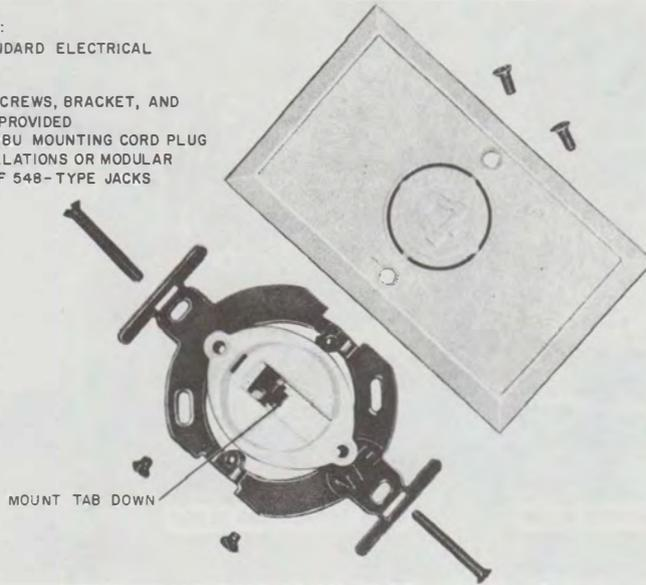

Fig. 2—625B Connecting Block (With Mounting Hardware)◆
- Provide top/bottom orientation to modular connectors (Fig. 2, 3, and paragraph 3.11) and Warning to paragraph 3.01
- Block, Connecting, 625B (Fig. 2)
**2.03** The **625B** connecting block (Fig. 2) includes the 625F connecting block, 65A faceplate package, and two mounting screws. It is intended for new installations or modular replacement of 548A jacks or 47F connecting blocks.
(b) **Flush-type:** Jack-opening oriented with spring contacts up and tab down (Fig. 2, 3, and 7).
**3.03 625B Connecting Block:** Mount the bracket on a standard electrical outlet box or directly to the wall (must have recessed area) using the mounting screws supplied (see Fig. 2). Feed the station wire through the center mounting hole of the bracket and terminate the leads on the connecting block as shown in Table A. Mount the connecting block on bracket and fasten with the two screws supplied. Attach faceplate with the two screws supplied.